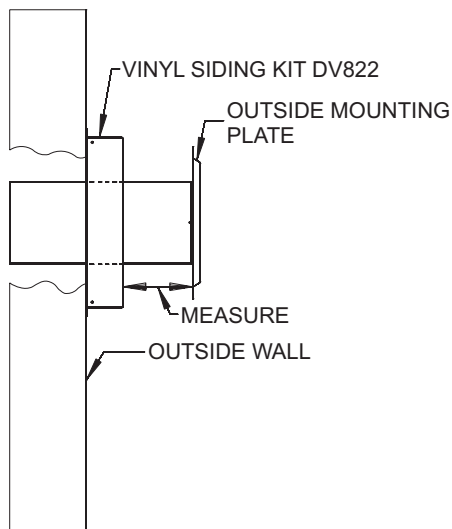
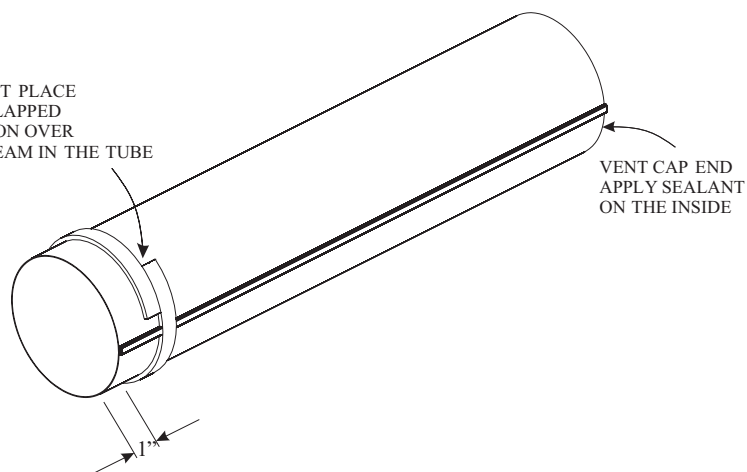

Figure 46
Figure 48
5. Attach the inlet tube to the outside mounting plate. Align tinnerman clips on the tabs of the air inlet tube to the holes on outside mounting plate, and fix with (2) #10 x 1/2" screws.
6. With the vinyl siding kit installed to wall (if necessary), insert the 6 5/8" (168mm) diameter tube with outside mounting plate attached through hole in wall. Connect to collar on fireplace or rigid vent system. Measure between wall or vent cap extension and outside mounting plate (**Figures 46 and 47**).
8. Attach the 4" (102mm) diameter flue outlet tube onto the rigid venting system or directly to fireplace. Ensure the 4" (102mm) diameter flue outlet tube is placed as far as possible onto the rigid venting system. Mark the 4" (102mm) diameter flue outlet tube 2 1/2" (64mm) beyond the vinyl siding kit or wall. **See Figure 46.** Remove the 4" (102mm) diameter flue outlet tube from rigid venting system. When installing directly to fireplace, tape gasket needs to be used.
10. From outside: Push the 6 5/8" (168mm) diameter inlet tube/mounting plate onto end of rigid venting system to correct position. Fasten the outside mounting plate to the vinyl siding kit or wall with (4) 10 x 1 1/2" screws. (Ensure upward slope).
11. From inside: Attach the inlet tube to the collar on the back of the fireplace (or the rigid venting system) using (3) self tapping screws.
12. Seal the 4" (102mm) diameter flue outlet tube. Follow instructions and diagram (**Figure 48**).
14. Fasten vent cap end using (3) 10 x 1/2" screws to mounting plate.
If the air inlet and flue outlet tubes are to be connected directly to the unit (no rigid venting system is being used), then the gasket provided must be used to seal the 4" (102mm) flue outlet tube. Peel the paper off the self-adhesive gasket and then wrap it around the end of the tube (if tube was cut, it is recommended to use cut end) as shown in Figure 48. Pull the gasket tight at all times while wrapping it around tube. The gasket ends should align, to form a complete seal. The overlapped section should NOT come in contact with the seam in the tube. Apply high temperature sealant to the opposite end of the tube (on the inside of the tube). The end with the gasket will attach to the back of the unit. Continue with Step 13.